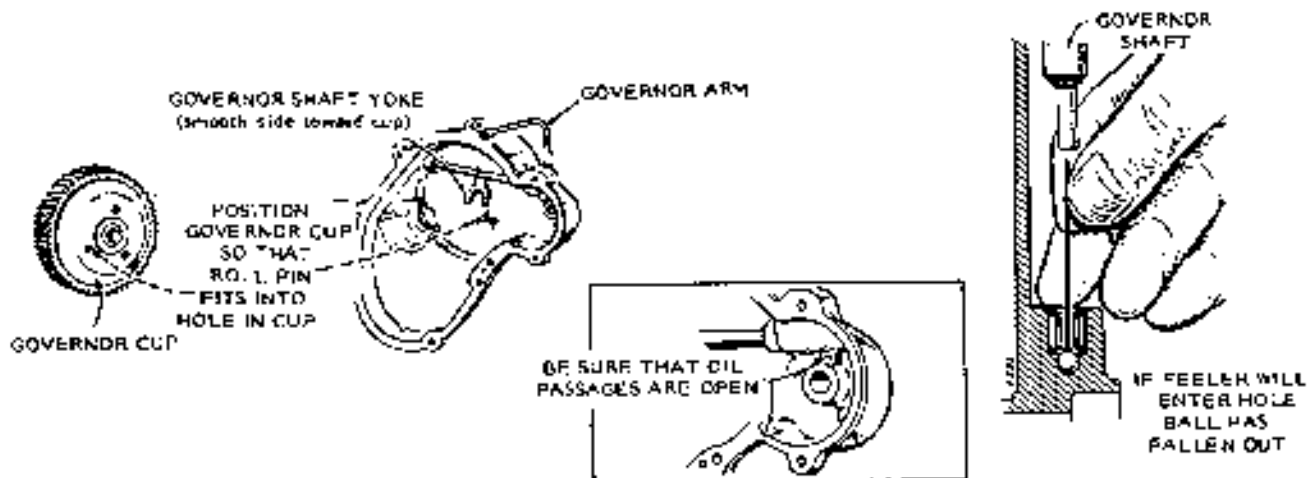

FIGURE 14-4. GEAR COVER ASSEMBLY
1. Work governor shaft to check for binding and see that governor shaft end-thrust ball is in place. Figure 14-4. Later models have a larger ball which will not fall out.
3. Turn governor cup so stop pin in gear cover will fit into one of the holes in cup surface, Figure 14-4.